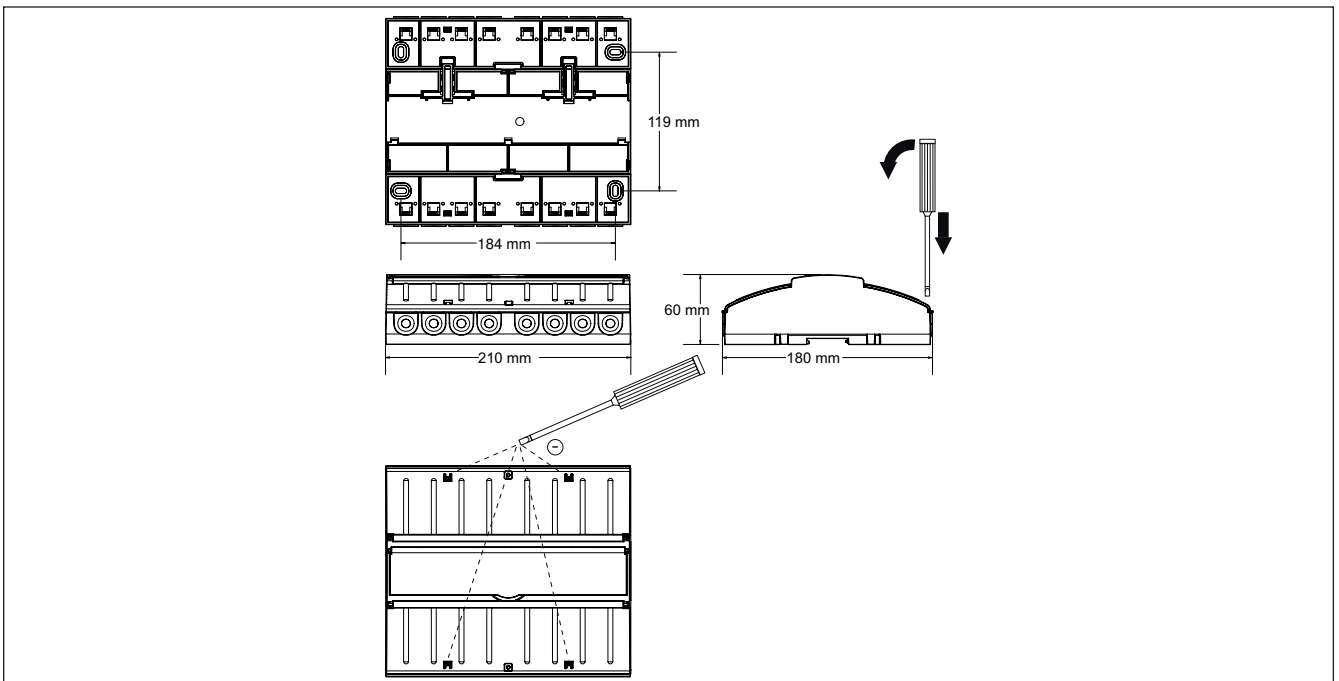

Fig. 4 REG housing
- AP: Insert a slotted screwdriver (recommendation: 3.0 - 4.0mm blade) into the respective cover opening (see Fig. 4) and carefully pry the folding cover open. Repeat the procedure for the second opening of the cover. The cover can be folded up when both catches have been released. The second cover can be opened in the same manner. Alternatively, the surface-mounted variant can be mounted on a DIN rail (TH 35-15 as per EN 60715: 2001).